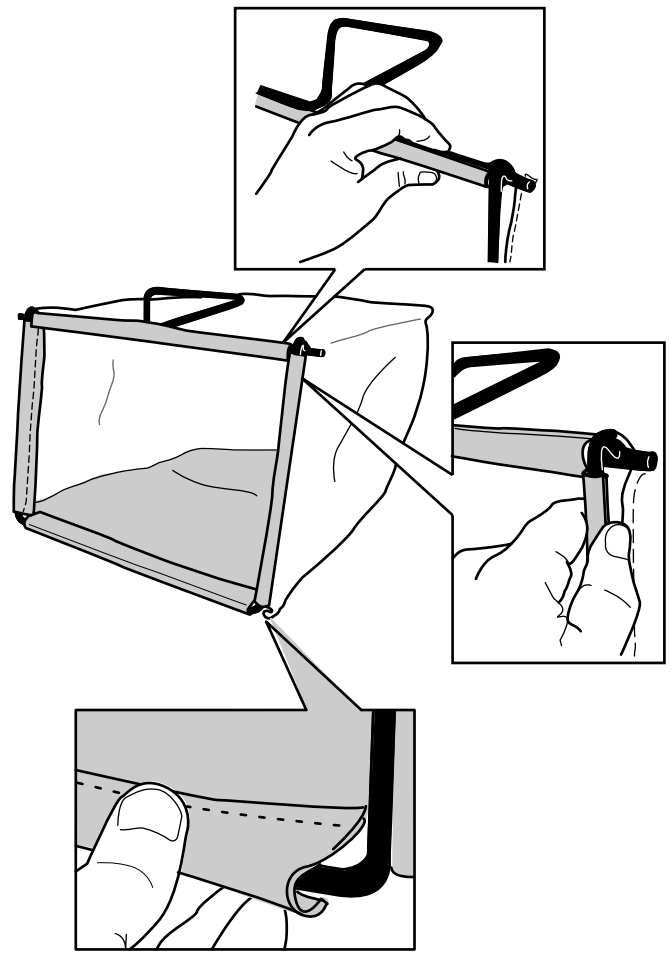

Figure 6
2. Hook the bottom channel of the bag onto the bottom of the frame (Figure 6).
3. Hook the top and side channels of the bag onto the top and sides of the frame, respectively (Figure 6).